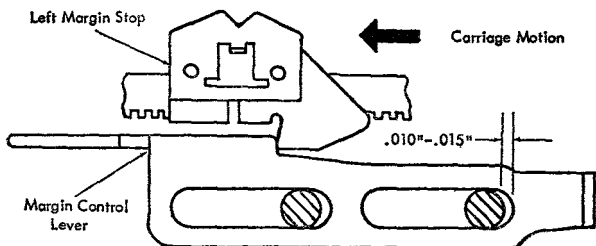

Figure 31. *Overbank Adjustment*
14. OVERBANK. Move the carriage from left to right and observe that the escapement pawl drops over an escapement-rack tooth when the margin-control lever is from $.010''$ to $.015''$ from its full right position (Figure 31).